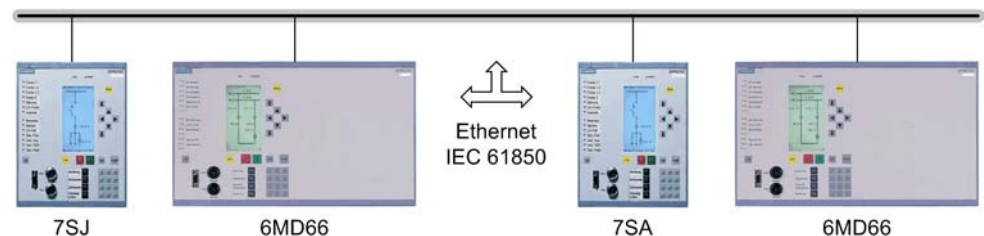

Figure 2-25 Switchgear interlocking system with 6MD66 and IEC61850—GOOSE
- If communication with IEC61850 via Ethernet is used, information for the system interlocking is exchanged directly from one bay controller to the other (or to any other GOOSE-capable bay controllers). The Ethernet interface used is the same as for communication with the station controller (see Figure 2-25).